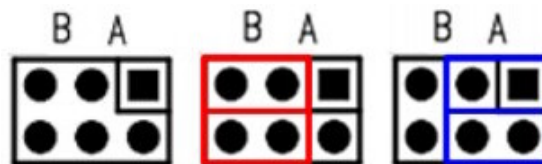

Figure 13: Bluetooth control jumpers on the Iteaduino BT.
configuration in Figure 13. Use this setting for ordinary Arduino operation of the Itearduino BT.
2. With two jumpers connecting the central pins to their left neighbors, labeled B, the serial communication of the board is via the Bluetooth module. This configuration is in the middle of Figure 13. The switch must be in the DAT position, for DATA. Any `Serial.print` command executed will send its data via the Bluetooth connection. Serial read commands will also work on the Bluetooth connection. Before we can actually send and receive data the module must be paired with the other Bluetooth module in the communication, either a mobile phone or a computer.
3. When the jumpers are in position A, the rightmost configuration in Figure 13, and the switch is in position CMD, for COMMAND, the Bluetooth module itself can be configured via the serial port of the board. This works only when the program on the board does not use the serial port, and the serial port is set to 38400 baud and sends newline and carriage return, BOTH NL & CR. The easiest way to avoid that the program on the Arduino does not interference with this use of the serial monitor is to upload the `blink` program, do not forget to remove the jumpers before uploading this program.